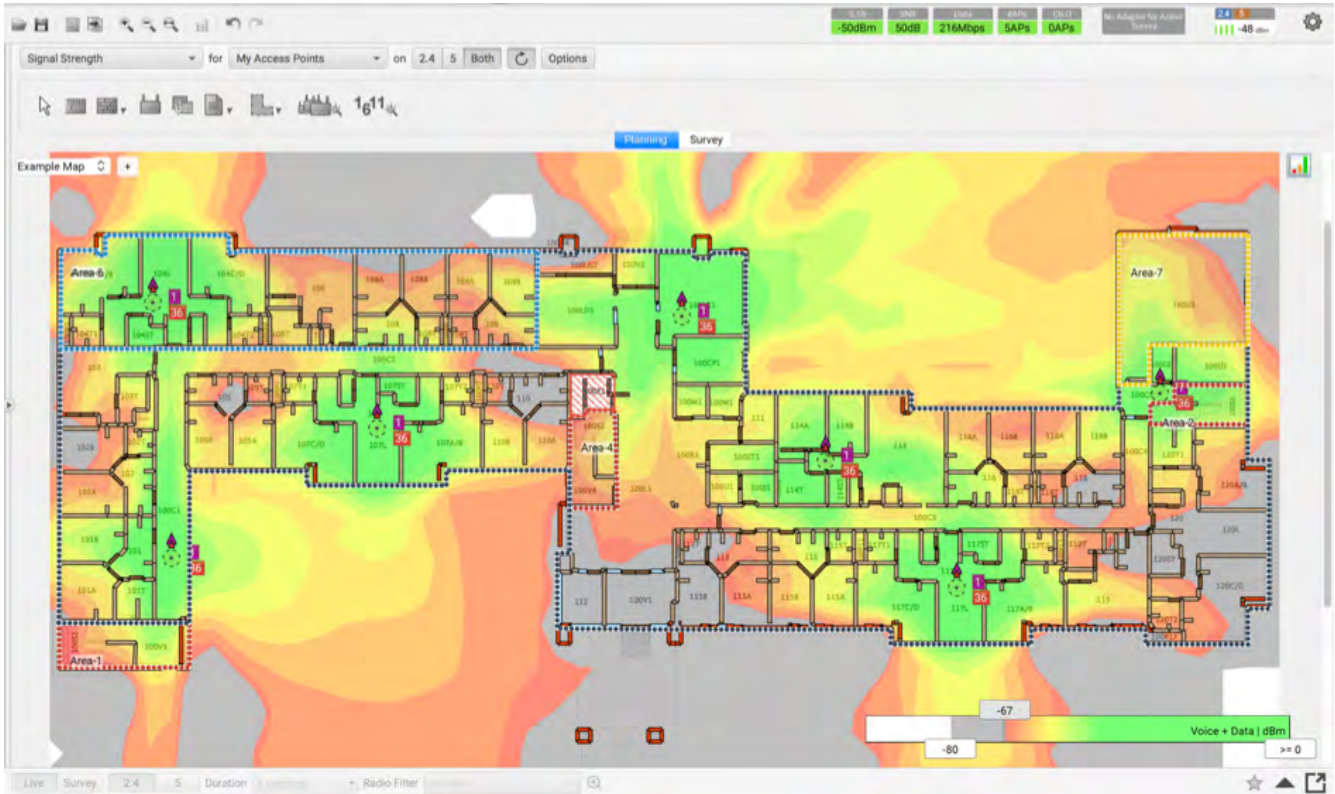

Figure 6: Ekahau Site Survey Pro.7
- **Predictive modeling:** This involves building a mathematical model of the facility, using a software package such as Ekahau Site Survey Pro shown in Figure 6. The floor plans are loaded in, and the building materials of the walls are specified so as to account for their attenuation and reflectivity characteristics. If CAD drawings are available, Ekahau Site Survey Pro can automatically draw in the walls, though if not, walls can also be placed manually.